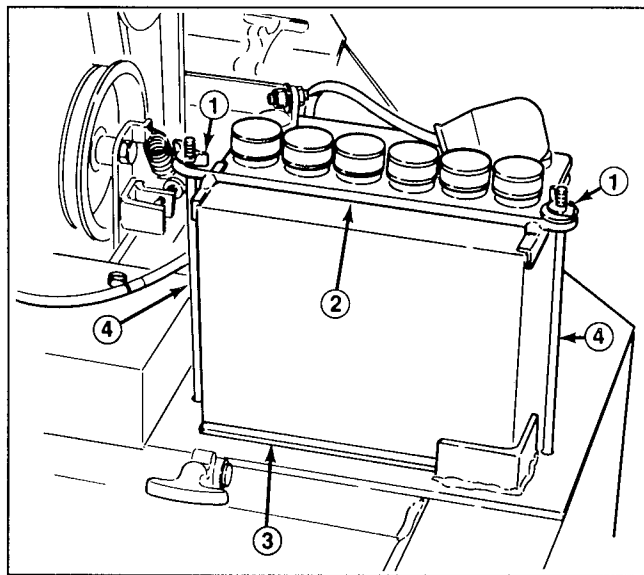

Figure 11
3. Remove wing nuts securing battery clamp and support rods and remove battery from machine. Remove filler caps from battery and slowly fill each cell until electrolyte is just above the plates (Fig. 11).
1. Mount battery on battery pad with terminal posts forward (Fig. 11).
2. Secure battery with clamp, support rods and wing nuts (Fig. 11).
3. Install the positive cable (rubber boot over end) to the positive (+) terminal and the negative cable (black) to the negative (-) terminal of the battery and secure with carriage bolts, lock-washers and nuts. Slide the rubber boot over the positive terminal to prevent possible short-out from occurring (Fig. 11).